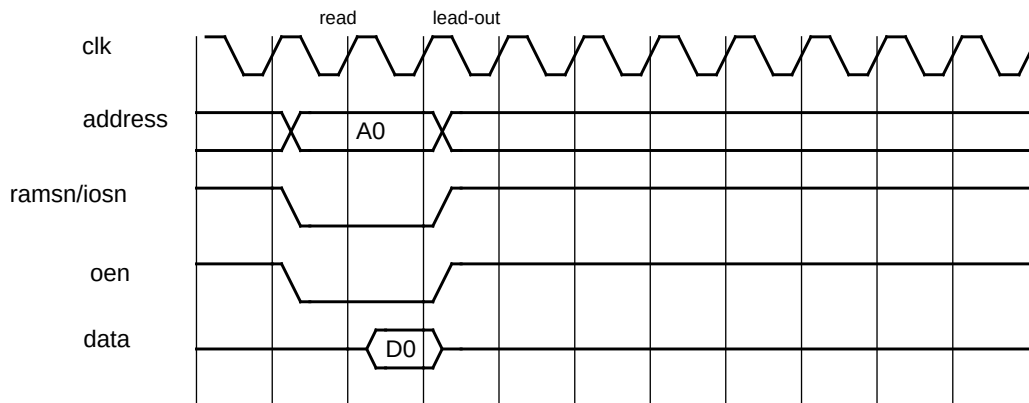
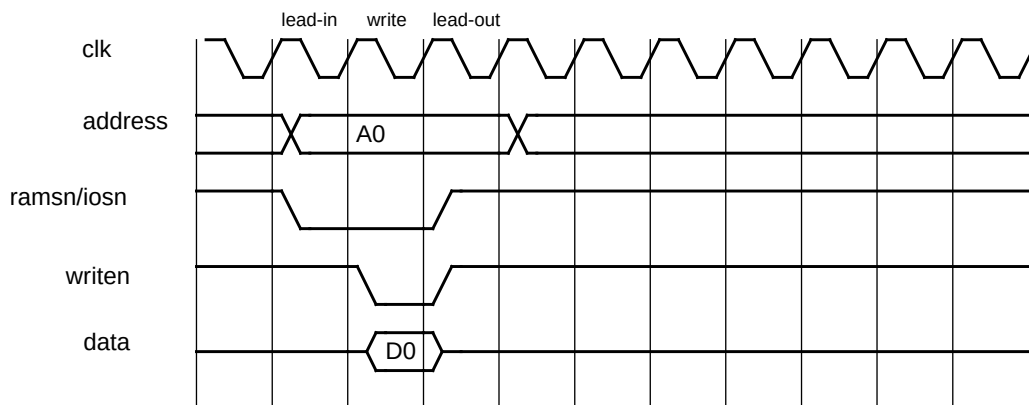

Figure 280. 32-bit PROM/I/O read cycle
Figure 281. 32-bit PROM/I/O write cycle
For the PROM and I/O operations, a number of waitstates can be inserted to increase the read and write cycle. The number of waitstates can be configured separately for the I/O and PROM address ranges, through a programmable register mapped into the APB address space. After a reset the waitstates for PROM area is set to its maximum (15). Figure 280 and figure 281 show timing diagrams for the PROM read and write accesses.
Read accesses to 32-bit PROM and I/O has the same timing, see figure 280
The write access for 32-bit PROM and I/O can be seen in figure 281